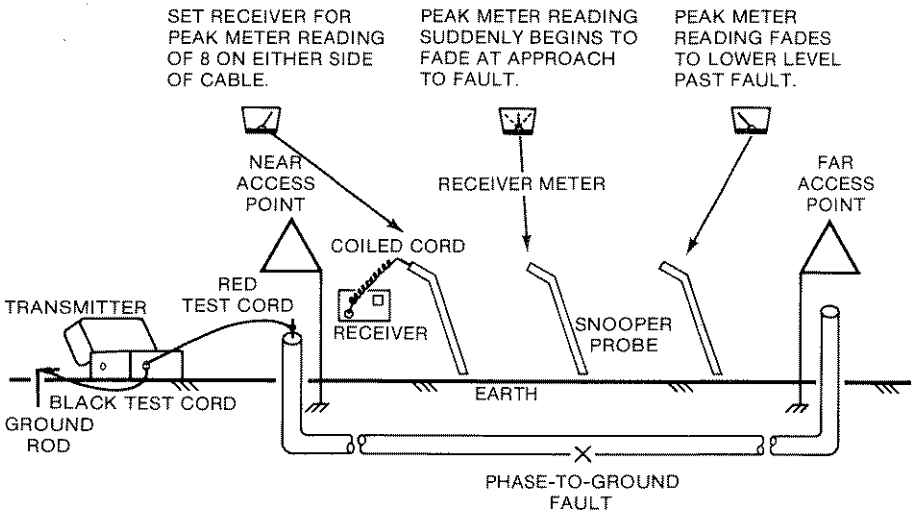

Figure 4-2.
3. Connect the black test cord clip to the ground rod (see Figure 4-2).
4. Plug the jack end of the red/black test cord into the RED/BLACK TEST CORD jack receptacle on the transmitter (see Figure 4-2).